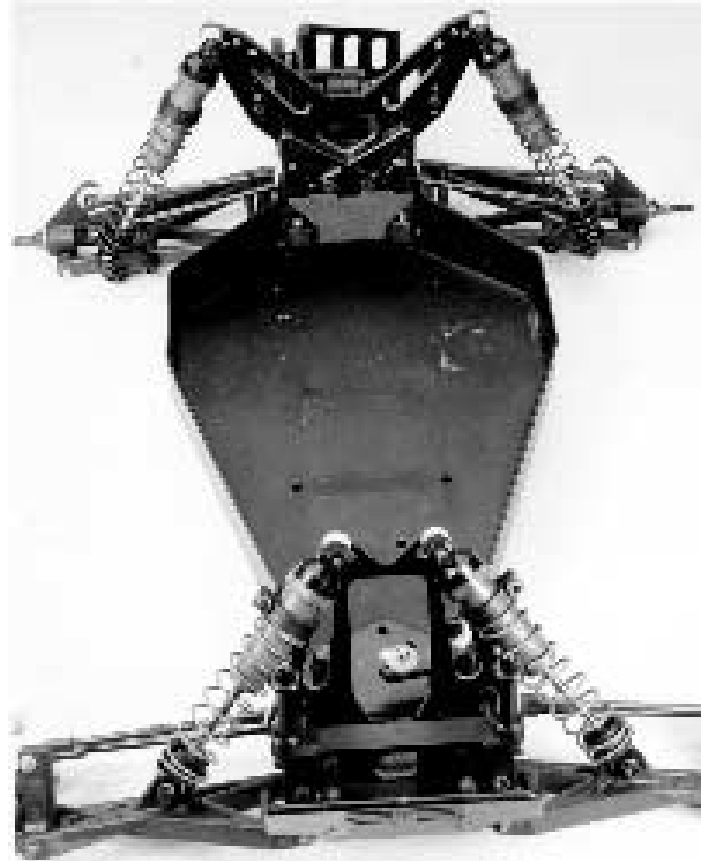

Fig. 137
□ **Fig. 137** This photo shows all four shocks installed onto the truck. We have now completed the chassis assembly.